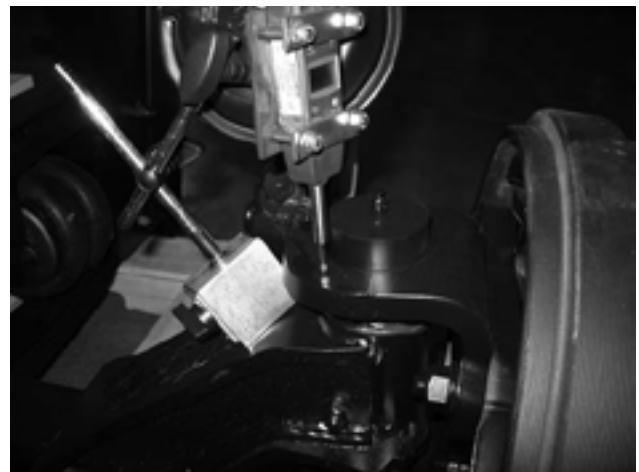

Figure 6 Vertical End Play Checking
6. Place a jack and a wood block (with a hole that allows clearance for the lower kingpin grease fitting) under the lower kingpin grease cap area. (See Figure 6)